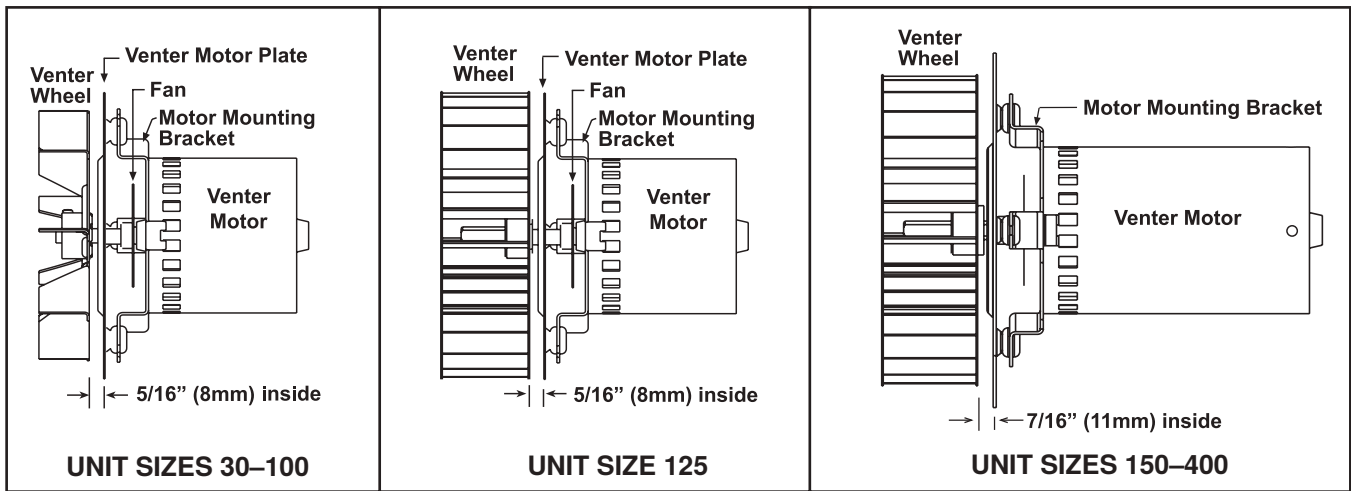

Figure 25. Venter Wheel and Motor Assembly
6. Reassemble with replacement venter motor and wheel. Ensure that venter wheel is properly positioned on shaft (see Figure 25).